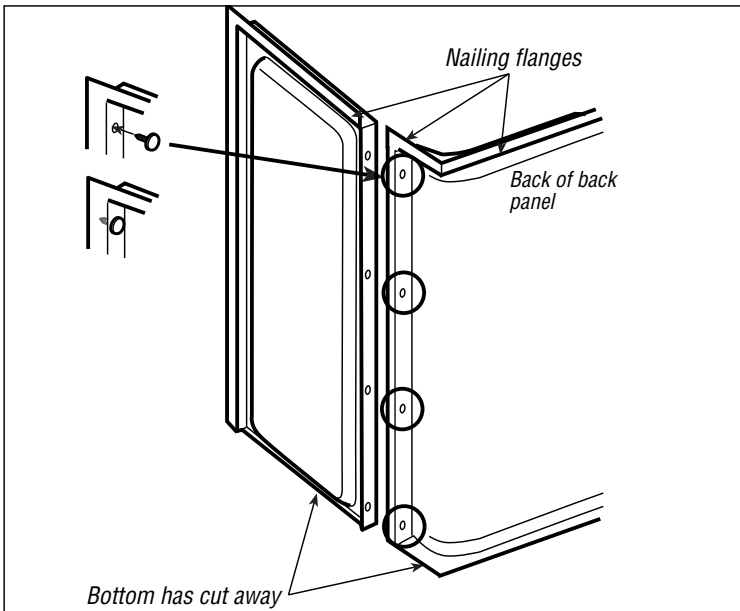

Figure 2
- 3** Install the eight fasteners into the 4 holes on each side of the **back** panel by firmly pushing the fasteners from the back side of the panel. Once installed, the fasteners will protrude (*Figure 2*). Set the back panel into the alcove against the studs. Place each side panel in position and slide back until fasteners push through the holes on each side panel. **Note: The fasteners are not designed to "lock" the panels in place, but to allow the panels to line up appropriately.** Check fit before proceeding.